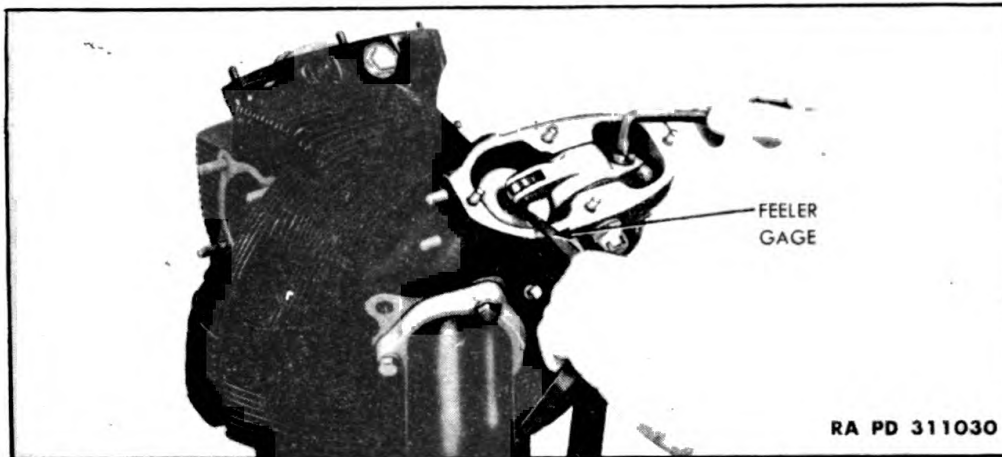

Figure 67 – Adjusting Valve Clearance, Using Gage 5A2281
(4) **ADJUSTMENT OF VALVE CLEARANCE** (fig. 67). To adjust clearance between the valve stem and rocker arm roller, turn crankshaft until the piston in No. 1 cylinder is on top dead center on compression stroke. In this position valve tappet rollers are at their lowest point of travel on cam ring which places both valves in fully closed position. To check that No. 1 cylinder is on its firing stroke, test two adjacent valves, No. 2 exhaust and No. 9 intake. When intake valve to left is approximately one-half open and exhaust valve on right is approximately one-half closed, viewed with crankshaft vertically up, piston in cylinder being checked is on top dead center on firing stroke, with both valves closed. Loosen lock screw and tighten adjusting screw until there is no clearance between valve rocker and end of valve stem. This will compress spring in valve lifter assembly and assure that all clearance has been removed from push rod assembly. Loosen adjusting screw until a 0.010 feeler gage can be inserted between valve rocker arm and end of valve stem. This adjustment is made cold. The top face of adjusting screw is marked with three small circles which indicate location of holes that conduct oil from hollow push rods to rocker arm bearings on cylinders which are located above center line of engine. Care must be taken that none of these marks line up with slot in rocker arm. If, after obtaining correct adjustment, one of these marks does line up with slot, the clearance should be increased until mark is at least $\frac{3}{32}$ inch away from slot in rocker arm. After valve adjustment has been made, clamping screw must be tightened. After adjusting valve clearances on No. 1 cylinder, continue to next cylinder